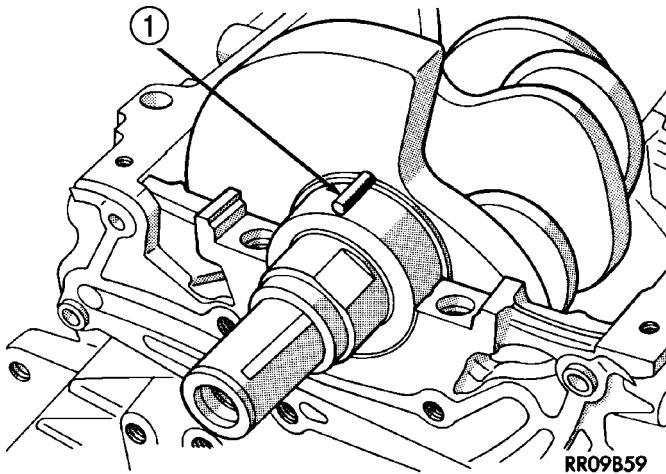

Fig. 4 Plastigage Placed in Lower Shell—Typical
(1) Remove oil film from surface to be checked. Plastigage is soluble in oil.
(2) Place a piece of Plastigage across the entire width of the bearing shell in the cap approximately 6.35 mm (1/4 in.) off center and away from the oil holes (Fig. 4). (In addition, suspected areas can be checked by placing the Plastigage in the suspected area). Torque the bearing cap/bed plate bolts of the bearing being checked to the proper specifications.
(3) Remove the bearing cap and compare the width of the flattened Plastigage with the metric scale provided on the package. Locate the band closest to the same width. This band shows the amount of clearance in thousandths of a millimeter. Differences in readings between the ends indicate the amount of taper present. Record all readings taken. Compare the clearance measurements to specifications found in the engine specifications table (Refer to